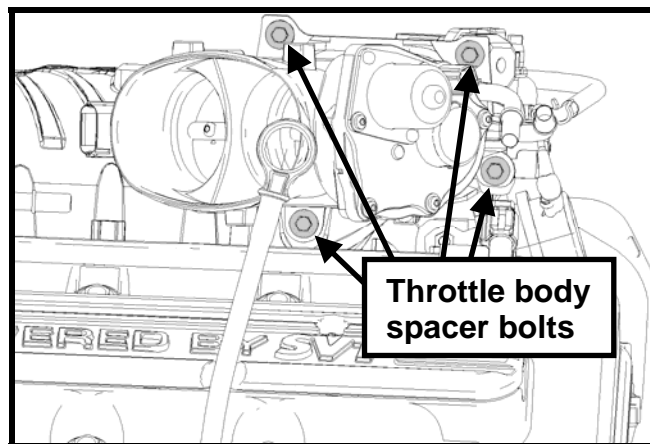

Fig. 25
STEP 9: Re-install the stock throttle body spacer assembly to the supercharger using the stock bolts and torque to 10 Nm (88 lb in) (See Fig. 25).